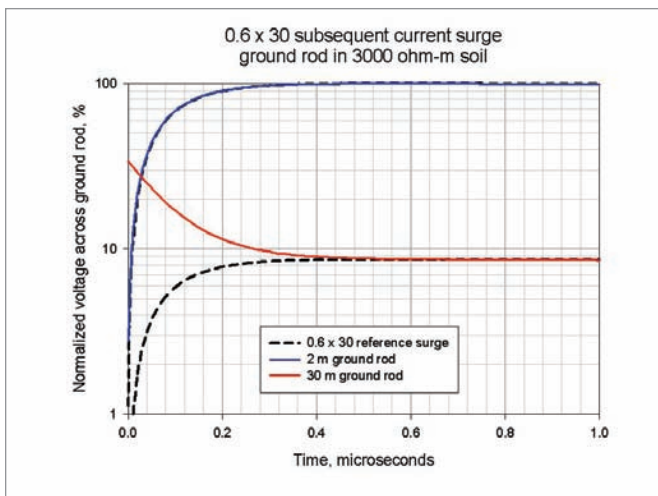

Figure 4: Normalized spectrum of a 4.5x77 and a 0.6x30 surge
For a typical first surge, $a = 2.52 \times 10^3$ and $b = 1.26 \times 10^6$; and for the subsequent surge, $a = 2.38 \times 10^4$ and $b = 1.11 \times 10^7$ (cf. [3] [13]). So from (5) the normalized frequency spectrums of these surges look like Figure 4.
What is clear from Figure 4 is that the high amplitude part of both the 4.5x77 and the 0.6x30 surges is concentrated at low frequencies. At low frequencies, a ground rod is essentially resistive. Since resistance decreases as the length of a ground rod increases, a long ground rod helps to reduce the specific energy (Amp²sec) of the surge by diverting the relatively high-amplitude, low-frequency components to ground. But a long ground rod looks inductive at higher frequencies, and this effect can lead to potentially damaging voltage spikes. So at what length does the inductive effect become important?